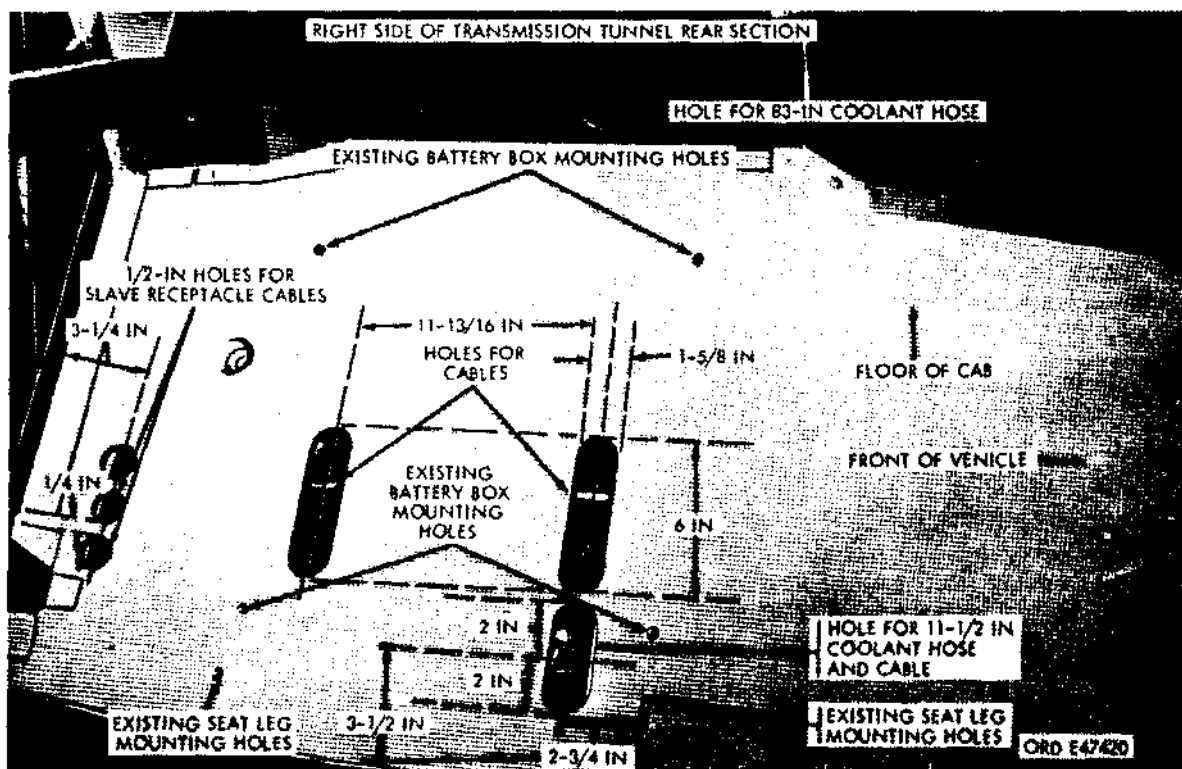

Figure 631. Holes for coolant hoses and cables in floor of cab
(1) Remove the three oblong knockout plugs from the floor of cab (fig. 631).
Note. If there are no oblong knockout plugs, use dimensions shown in figure 631 to locate holes.
(2) Remove the knockout plug from the right side of transmission tunnel rear section (fig. 631).
- (3) Remove the two knockout plugs from the slave receptacle cable holes on the floor of cab (fig. 631).
Note. If there are no knockout plugs, use the dimensions shown in figure 631 to locate the holes.